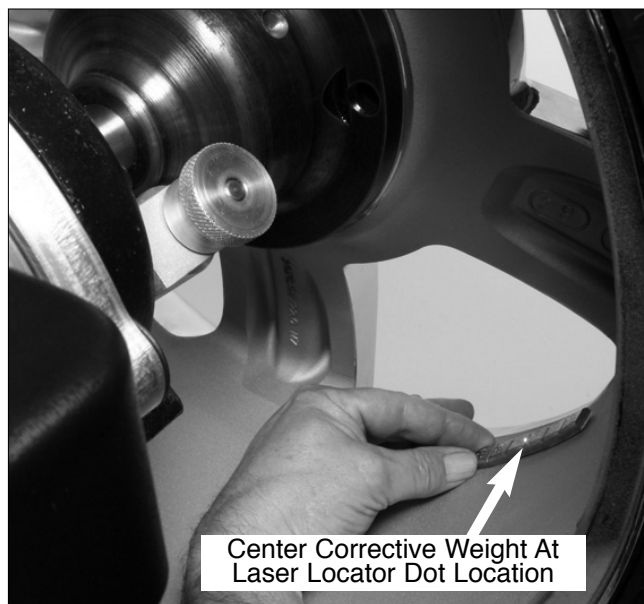

Figure 11 - Centering Corrective Hidden Weight At Laser Locator Dot Location
**8.** Center and attach the outboard corrective weight at laser locator dot location as shown in figure 11.